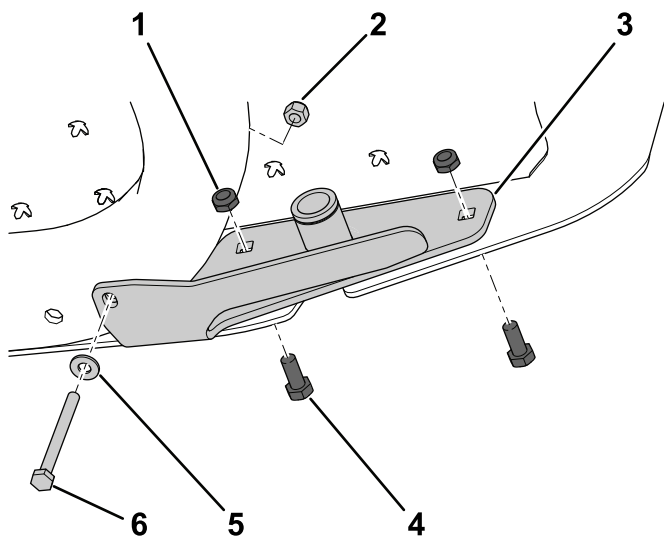

Figure 17
- Secure the bottom of the hub assembly to the machine frame with a bolt (1/4 x 2-3/4 inch), a washer (1/4 inch), and a locknut (1/4 inch); refer to Figure 17.